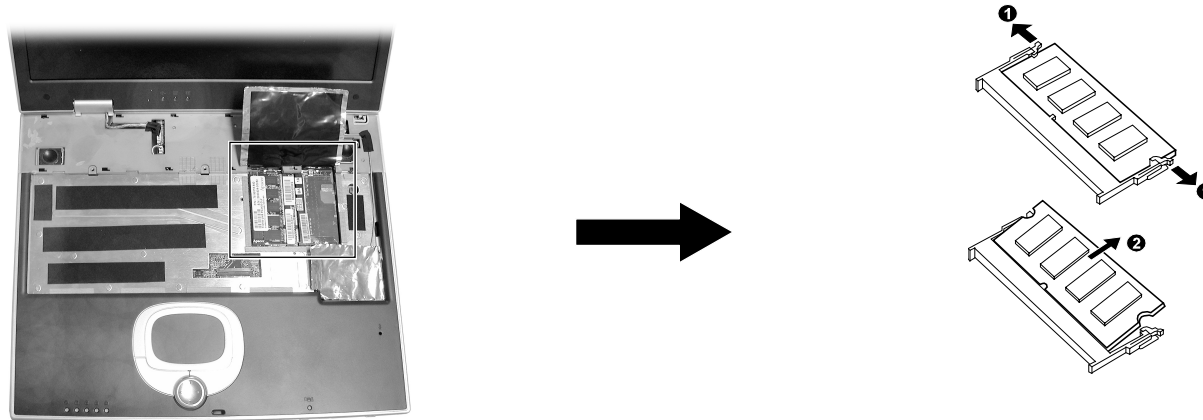

Figure 2-16 Remove the SO-DIMM
2. Pull the retaining clips outwards (❶) and remove the SO-DIMM (❷). (Figure 2-16)